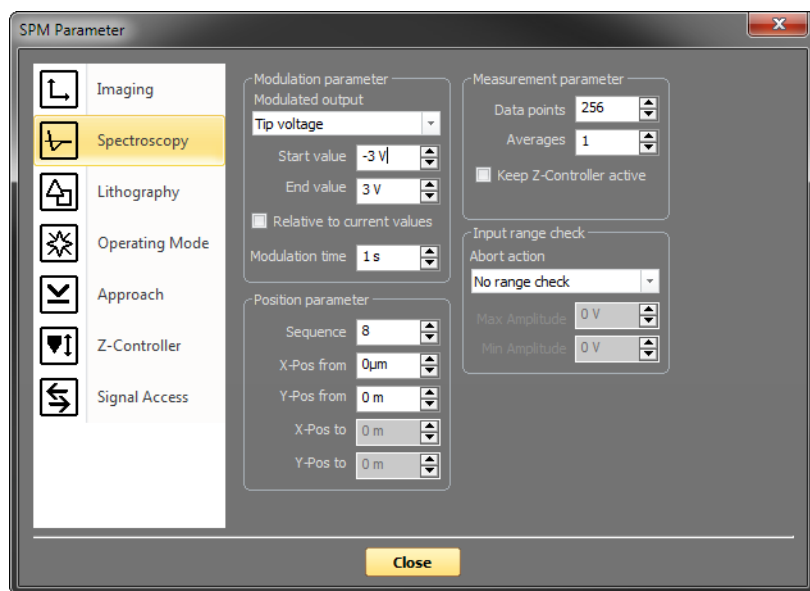

Figure 8-13: Spectroscopy parameters
- ⑤ In the Parameters section of the Spectroscopy window, click the “More” button. The SPM Parameters dialog will open on the Spectroscopy page.
- ⑥ Set all parameters and settings to the ones shown in *Figure 8-13: Spectroscopy parameters*
- ⑦ Select User Input 1 (or the name assigned to it) to be displayed in the Line graph chart (see *Figure 8-13: Spectroscopy parameters*).
- ⑧ Adjust the phase on the Lock-in amplifier until the maximum slope is observed.